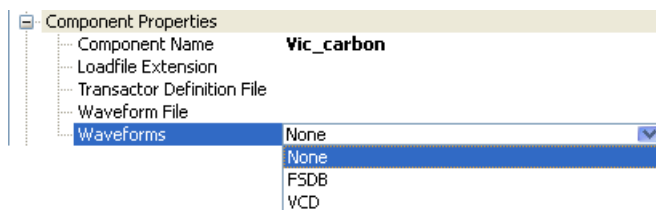

Figure 5-6 Waveform Type
3. Click the drop-down menu from the *Waveforms* field and select the waveform file format you want to use, as shown in Figure 5-6.